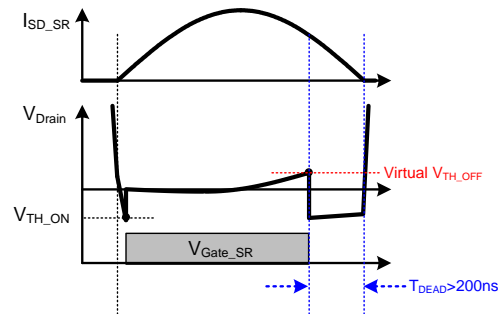
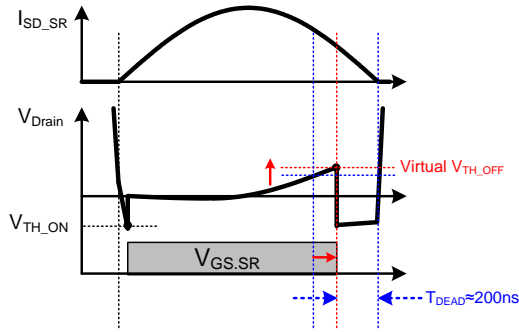

Figure 19. Premature SR gate turn-off ($T_{DEAD} > t_{DEAD_H}$)
Figure 20. Dead time control to maintain $T_{DEAD} \approx 200\text{ns}$
In FAN6248HA(B) version, if a dead time T_{DEAD} is larger than 200ns of t_{DEAD_H} , as shown in Figure 19, V_{offset} decreases by one step in next switching cycle. As a result, the dead time is decreased by increase of virtual V_{TH_OFF} , and becomes close to t_{DEAD_H} , as shown in Figure 20. If the dead time is smaller than t_{DEAD_H} , the dead time is increased by the virtual V_{TH_OFF} decrease. Thus, the dead time is maintained at around t_{DEAD_H} regardless of parasitic inductances.